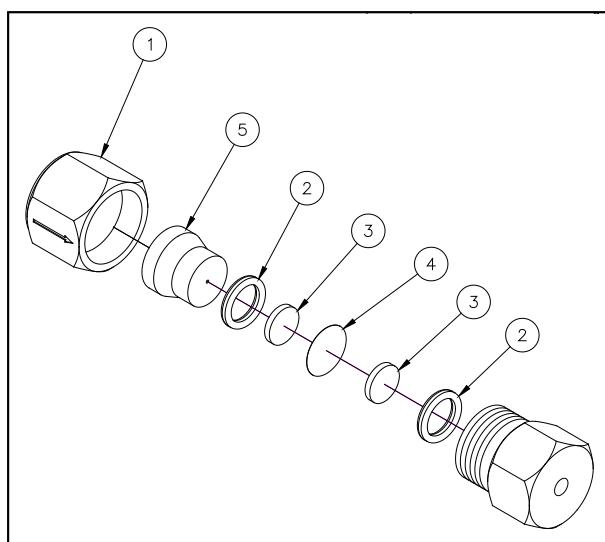

Figure 14: Post-column filter assembly
- If the instrument is a 305 TDA with a LS detector verify that a post column light scattering filter is properly installed below the column mounting platform, figure 14.